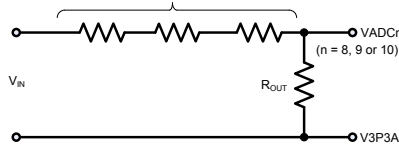
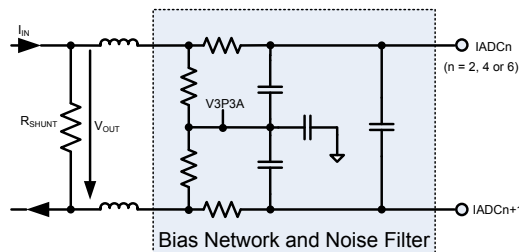
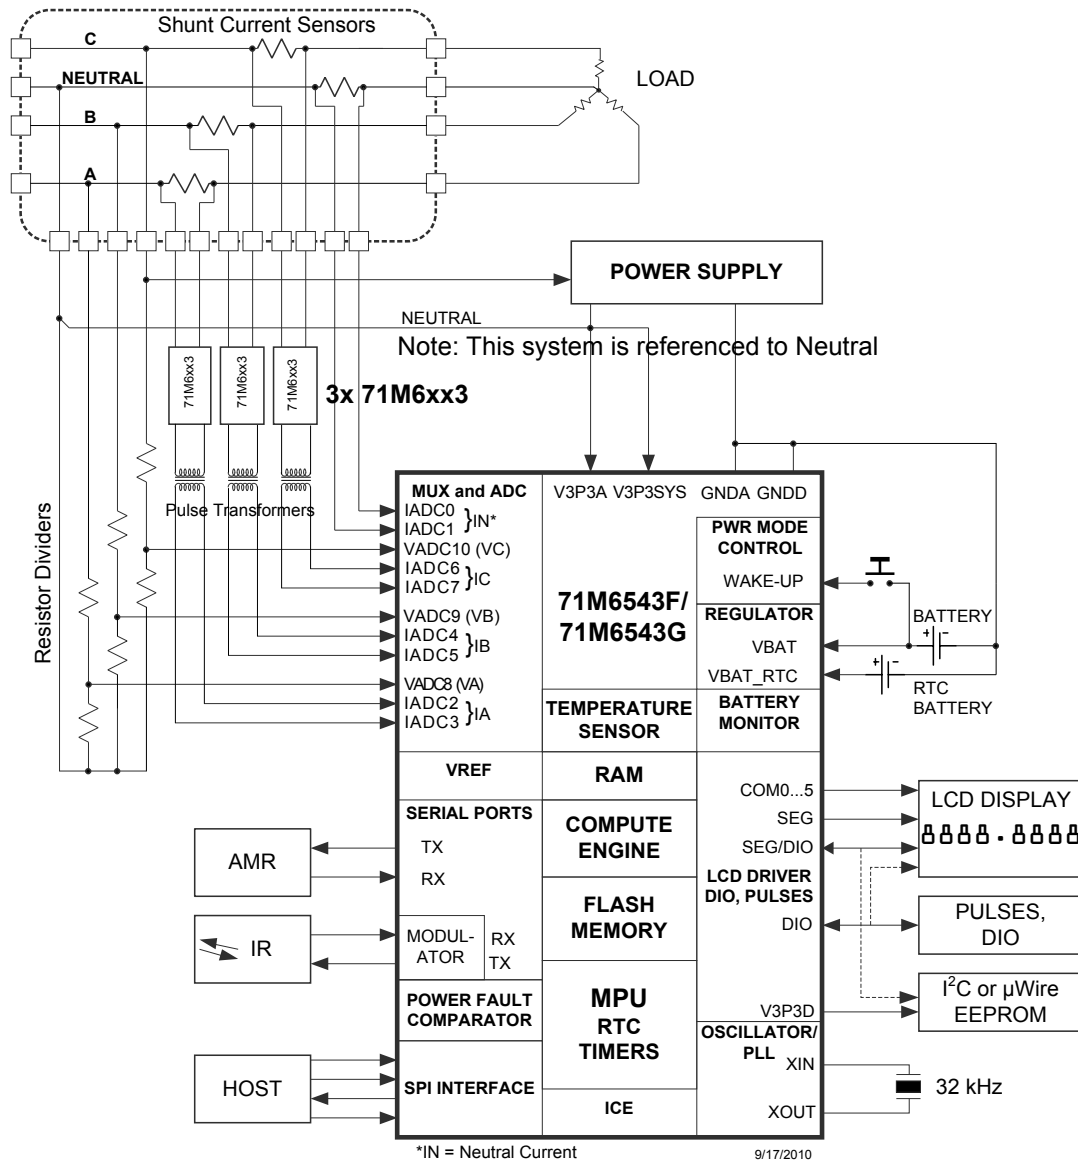
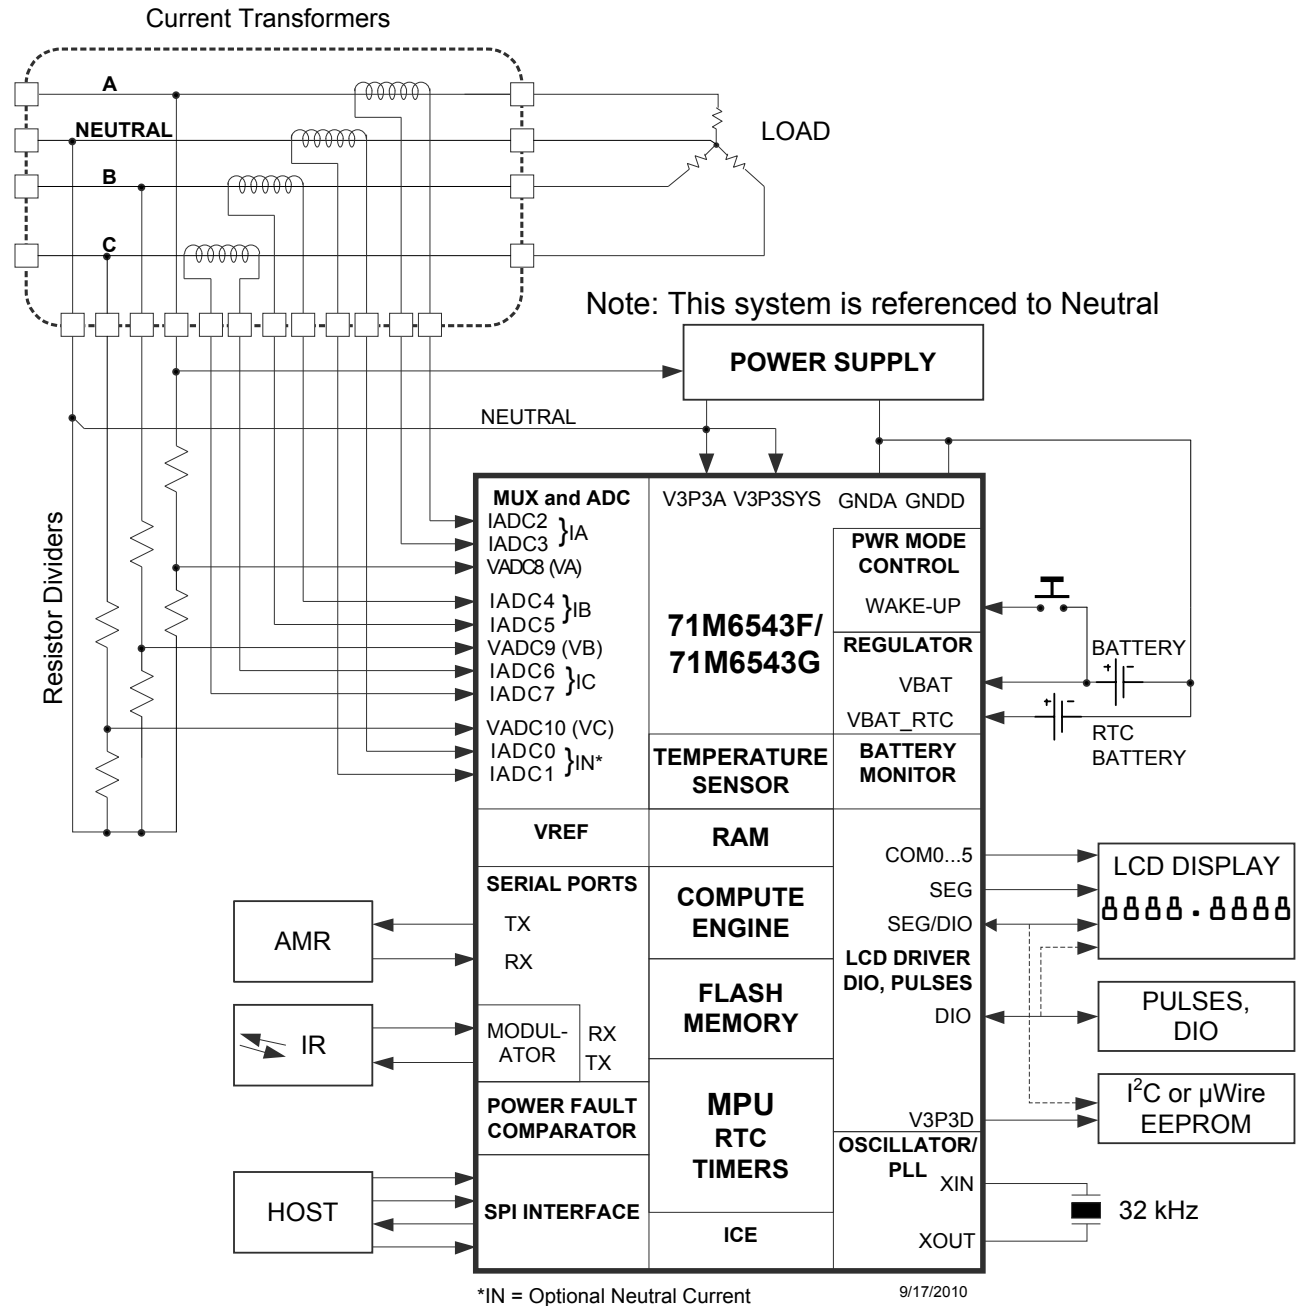

Figure 27: Resistive Voltage Divider (Voltage Sensing)
Figure 30: Differential Resistive Shunt Connections (Current Sensing)
Figure 31: System Using Three-Remotes and One-Local (Neutral) Sensor
Figure 32. System Using Current Transformers
Figure 27 through Figure 30 show voltage-sensing resistive dividers, current-sensing current transformers (CTs) and current-sensing resistive shunts and how they are connected to the voltage and current inputs of the 71M6543. All input signals to the 71M6543 sensor inputs are voltage signals providing a scaled representation of either a sensed voltage or current.
Figure 31 shows a typical connection for current shunt sensors; using the 71M6xx3 (polyphase) isolated sensors. Note that one shunt current sensor is connected without isolation, which is the neutral current sensor in this example (connected to pins IADC0-IADC1). Each 71M6xx3 device is electrically isolated by a low-cost pulse transformer. The 71M6543 current sensor inputs must be configured for remote sensor communications, as described in 2.2.8 71M6xx3 Isolated Sensor Interface (page 22). Flexible remapping using the I/O RAM registers  $MUXn\_SEL[3:0]$  allows the sequence of analog input pins to be different from the standard configuration (a corresponding CE code must be used). See Figure 2 for the AFE configuration corresponding to Figure 31.
Figure 32 shows a polyphase system using four current transformers to support optional Neutral current sensing for anti-tamper purposes. The Neutral current sensing CT can be omitted if Neutral current sensing is not required. The system is referenced to Neutral (i.e., the Neutral rail is tied to V3P3A and V3P3SYS).
This section discusses metrology temperature compensation for the meter designs where current shunt sensors are used in conjunction with the 71M6xx3 remote isolated sensors, as shown in Figure 31.
Referring to Figure 31, the VADC8 (VA), VADC9 (VB) and VADC10 (VC) voltage sensors are always directly connected to the 71M6543. Thus, the precision of the voltage sensors is primarily affected by VREF in the 71M6543. The temperature coefficient of the resistors used to implement the voltage dividers for the voltage sensors (see Figure 27) determine the behavior of the voltage division ratio with respect to temperature. It is recommended to use resistors with low temperature coefficients, while forming the entire voltage divider using resistors belonging to the same technology family, in order to minimize the temperature dependency of the voltage division ratio. The resistors must also have suitable voltage ratings.
Table 66 shows the five  $GAIN\_ADJx$  equation output storage locations and the voltage or current sensor channels for which they compensate for the 1 Local / 3 Remote configuration shown in Figure 31.
**Table 66: GAIN\_ADJn Compensation Channels (Figure 2, Figure 31, Table 1)**
This section discusses metrology temperature compensation for meter designs where Current Transformer (CT) sensors are used, as shown in Figure 32.
Referring to Figure 32, the VADC8 (VA), VADC9 (VB) and VADC10 (VC) voltage sensors are directly connected to the 71M6543. Thus, the precision of the voltage sensors is primarily affected by VREF in the 71M6543. The temperature coefficient of the resistors used to implement the voltage dividers for the voltage sensors (see Figure 27) determine the behavior of the voltage division ratio with respect to temperature. It is recommended to use resistors with low temperature coefficients, while forming the entire voltage divider using resistors belonging to the same technology family, in order to minimize the temperature dependency of the voltage division ratio. The resistors must also have suitable voltage ratings.
**Table 67: GAIN\_ADJx Compensation Channels (Figure 3, Figure 32, Table 2)**